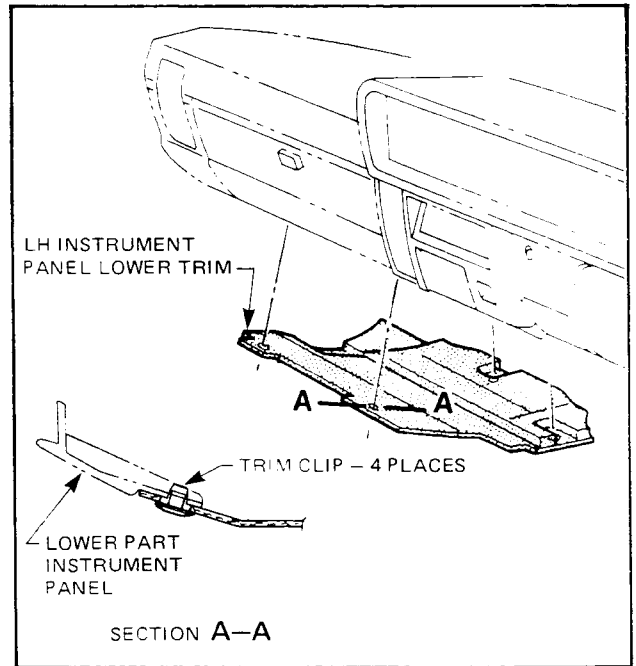

Figure 2A-10
3. From under the instrument panel, disengage the blower motor to main wiring harness connector, then supporting the blower motor, remove the two screws securing the motor to the blower housing illustrated in Fig. 2A-11, removing the motor.